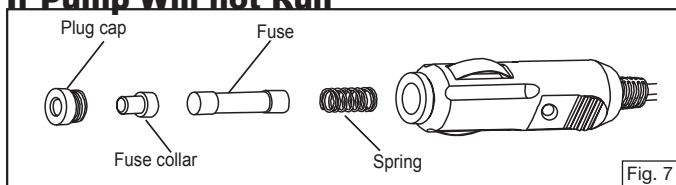

Fig. 7
- Check fuse in pump plug (Fig. 7).